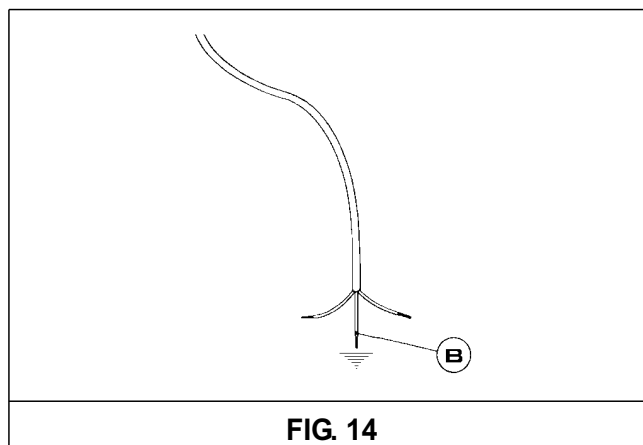

FIG. 14
*If the power supply cable is replaced, the installer should leave the ground wire longer than the phase conductors (fig. 14) and comply with the recommendations given in paragraph 8.*